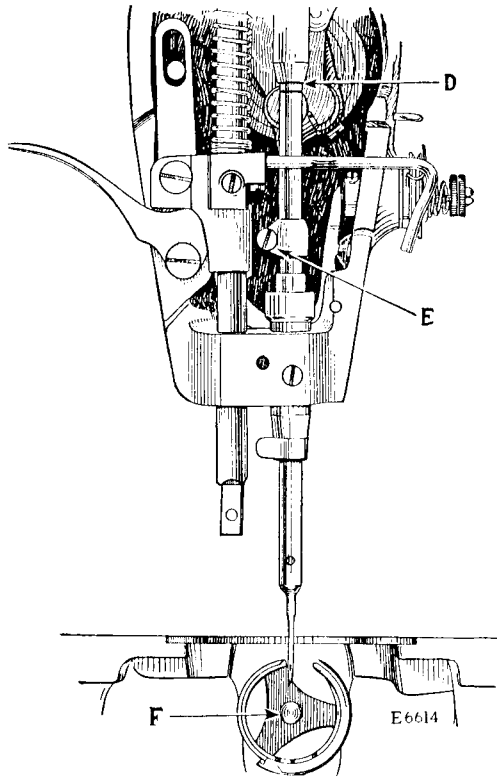

FIG. 17. SHOWING NEEDLE BAR SET AT THE CORRECT HEIGHT
Turn the balance wheel over toward you, until the needle bar moves down to its lowest point. When the needle bar is in this position, the **upper timing mark** on the needle bar should be centred with the lower end of the needle bar bushing, as shown at D, in Fig. 17.
In case the needle bar is not set at the correct height, loosen the screw (E, Fig. 17) in the needle bar connecting stud and move the needle bar up or down until the **upper timing mark** is centred with the lower end of the needle bar bushing, as shown at D, in Fig. 17, then securely tighten the screw (E).